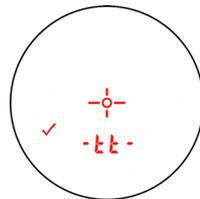

Figure 30
3. Press the  button repeatedly until the Test Tone display screen appears (Figure 30).